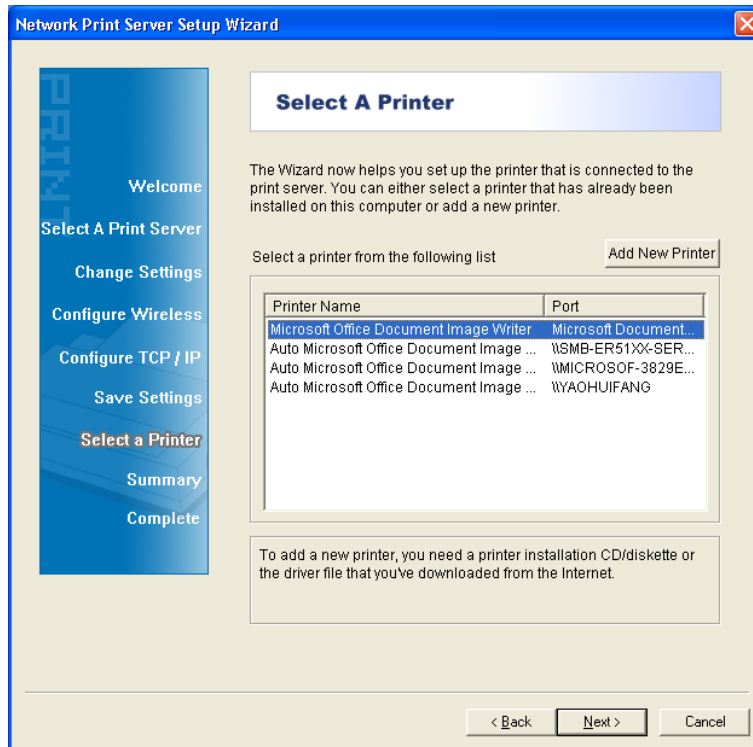

Figure 3-9
- Select “**No**” if you don’t need to change any settings. Click **Next** and then appears Figure 3-9. Skip to Step 8.
8. After that the “**Select a Printer**” page will appear, as shown in Figure 3-9.
- If you never use a printer on your computer before but also want to share printing, click **Add New Printer** button in Figure 3-9 and then Figure 3-11 appears. Follow the steps below to install the printer driver.